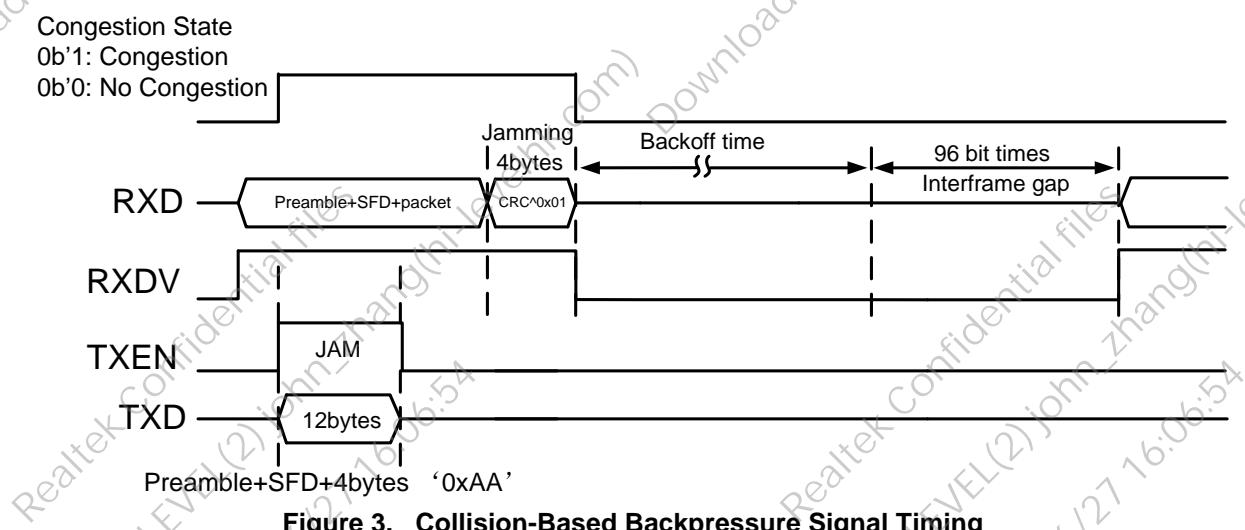

Figure 3. Collision-Based Backpressure Signal Timing
- The link partner waits for a random back-off time then re-sends the packet. The timing is shown in Figure 3